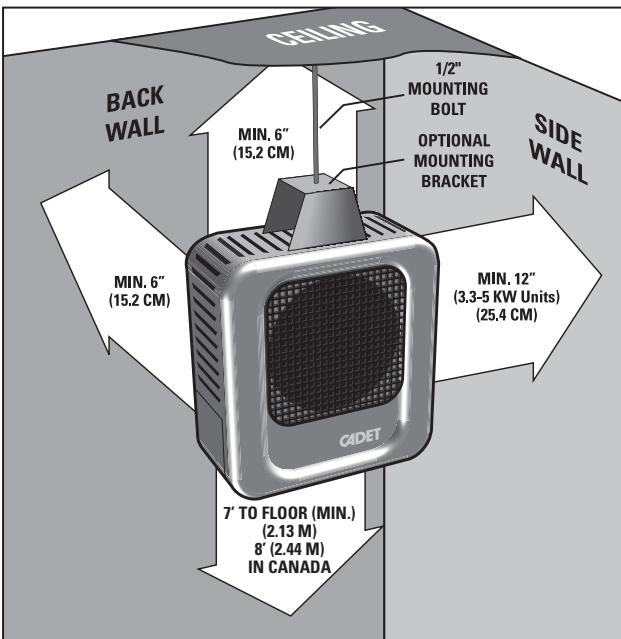

Figure 2 Horizontal mounting clearances with optional bracket (CEKM1)
- A minimum clearance for each heater (both horizontal and vertical mount) is listed in Figures 2 and 5. Please follow these recommendations to avoid potential problems with the function and safety of the heater.
**Horizontal Discharge** see Figure 2 for minimum clearances
### OPTION 2 Mounting with optional bolt-on ceiling bracket CEKM1 (Figure 2):
NOTE: When mounting for vertical discharge, position unit so that access door opens away from nearest wall. This permits maximum access to wiring compartment (Figures 2 and 5).